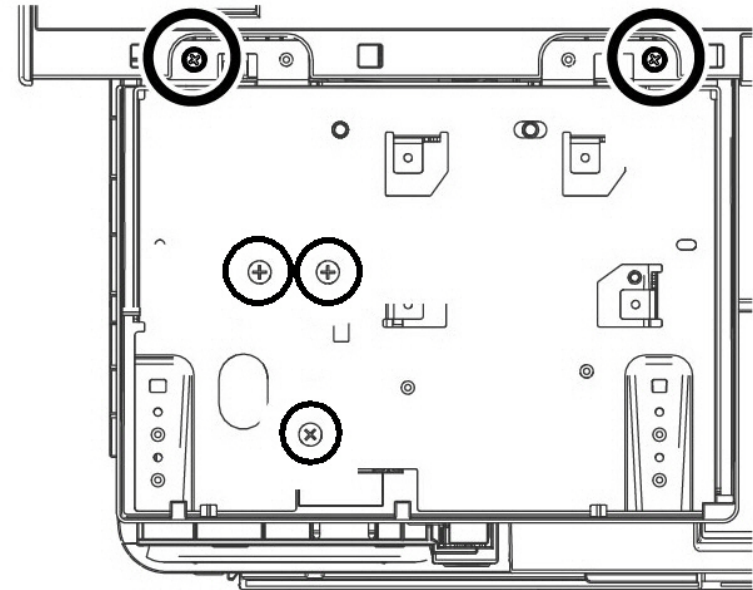

Figure 1 UI plate screw locations
5. Refer to Figure 1, remove 2 screws connecting the UI plate to the scanner and three screws in the UI plate.
NOTE: When engaging the release lever on the FFC connector, slightly press open the release lever no more than 15 degrees. Hold the lever while gently removing the FFC from the connector as shown in the inset of *Figure 1*, Disconnect the harnesses and two FFCs.